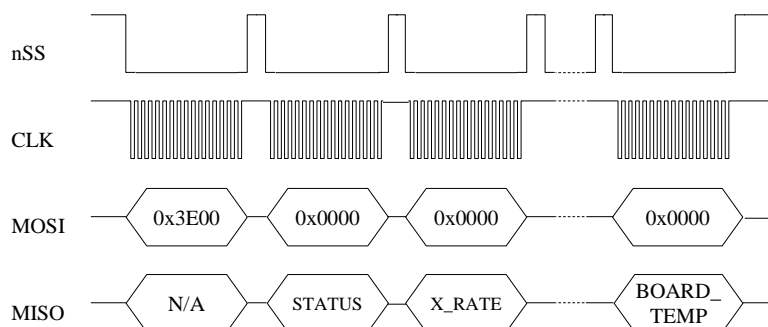

Figure 11 Multiple Register Read via Burst-Mode
Burst-mode begins when the master requests a read from a burst-mode data-packet (i.e. 0x3E). Eight additional SPI cycles complete the read (one for each word in the standard data-packet). Figure 11 illustrates the burst-mode sequence. Note: if the incorrect number of SPI cycles follow the burst-mode command, the SPI transfer will either complete early or remain in burst-mode; subsequent reads/writes will be out of sync with the SPI transfer cycle of the DMUx81ZA.
- Toggle nSS in between each of the 16-bit words (as shown in Figure 11).